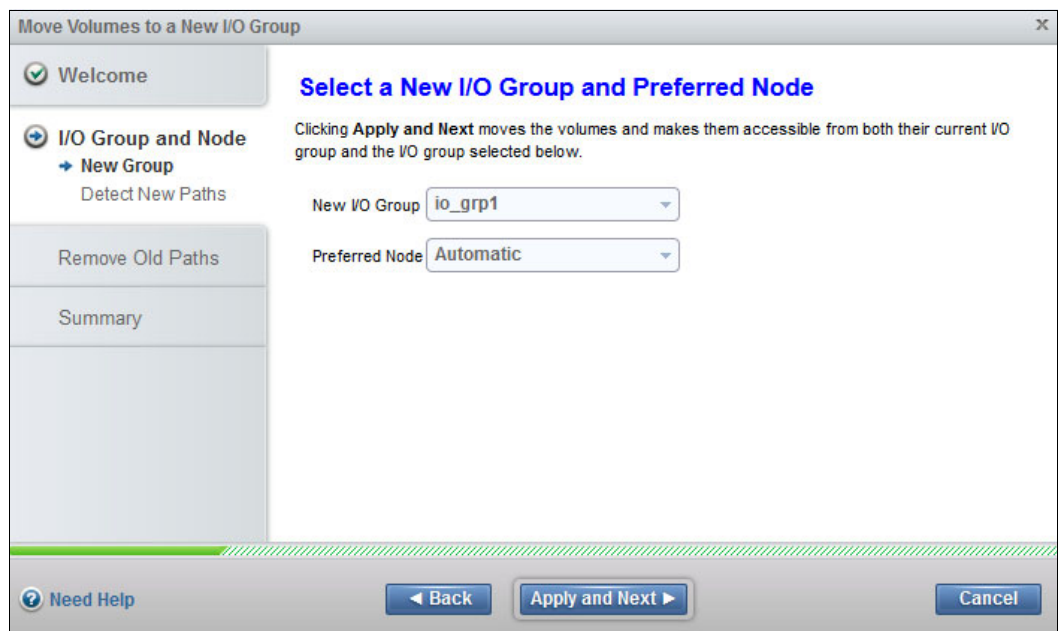

Figure 5-70 Select new I/O group
2. In this example, you allow only the Red Hat host to access I/O group 0 and I/O group 1 so only I/O group 1 is a candidate. Select the new I/O group and click **Apply and Next** (Figure 5-70).